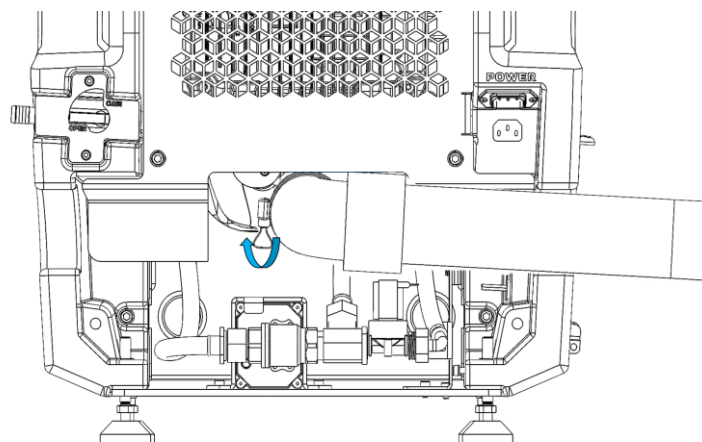

FIGURE 2-11
4. Tighten the hose clip (Fig. 2-11).